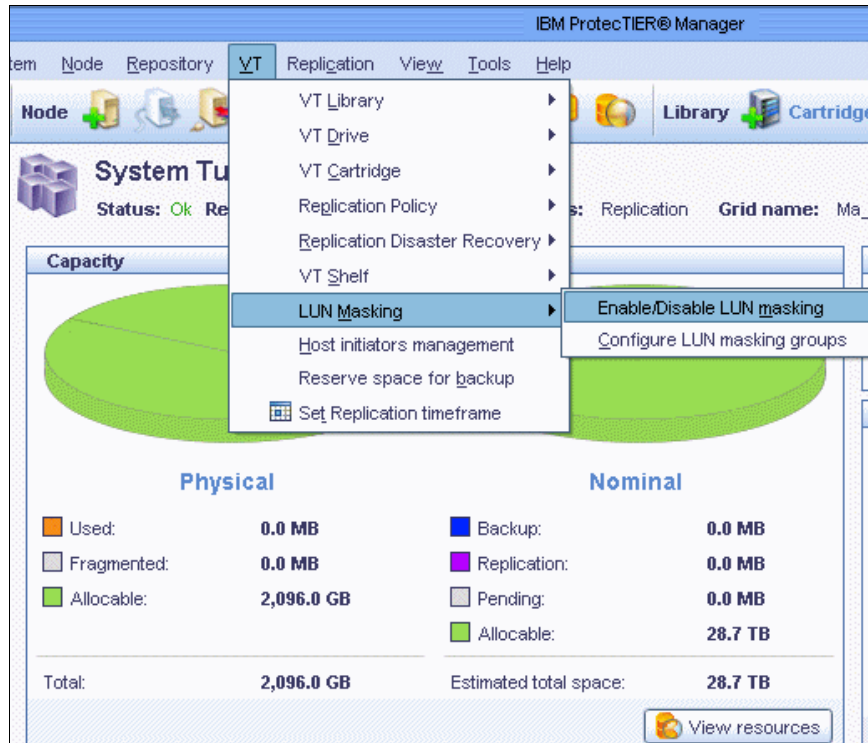

Figure 6-5 Select Enable/Disable LUN Masking
1. Log in to the PT Manager GUI. From the VT drop-down menu, select **LUN Masking** and select **Enable/Disable LUN Masking**, as shown in Figure 6-5.